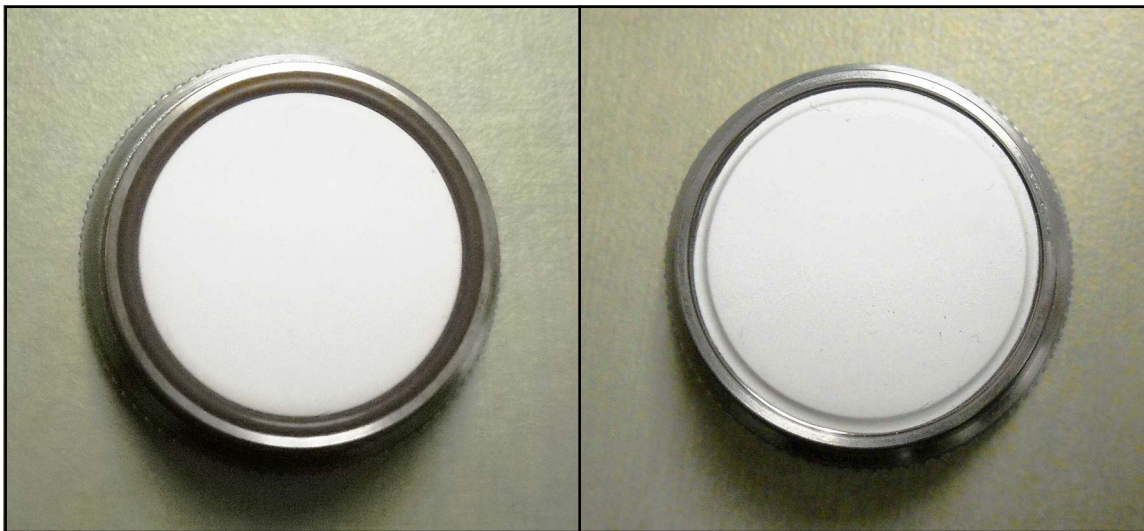

Figure 101: Orient the Filter Cap and Remove the Large O-Ring
4. Carefully remove the large O-ring (see Figure 101 below).